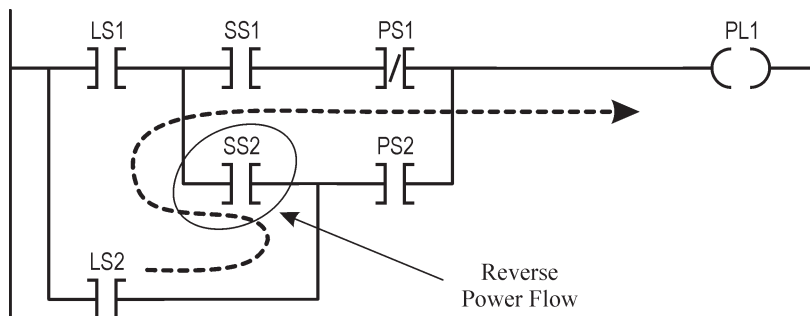
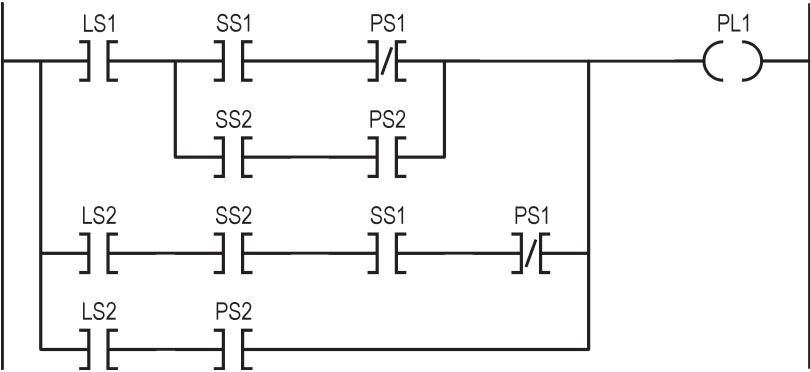

Figure 2.16. Reverse power flow in ladder logic.
Figure 2.17. Reverse power flow in ladder logic corrected.
4. Reverse power flow in the contact matrix is **not** allowed. When electromechanical relays implement ladder logic, power can flow either way through the contacts. For example, consider the ladder logic in Figure 2.16. If implemented with electromechanical relays, power may flow right-to-left through the SS2 contact. When solid state relays replaced electromechanical relays for ladder logic, power can flow only one way (left-to-right) through the contacts. This restriction was carried to PLC ladder logic. If the reverse power flow path is truly needed, then insert it as a separate path, where the power flows from left to right. The reverse
power flow path in Figure 2.16 is added as a separate path in Figure 2.17. Actually, one cannot program Allen-Bradley PLCs with ladder logic shown in Figure 2.16. One is not permitted to start a branch on one row of contacts and finish it on another row of contacts.